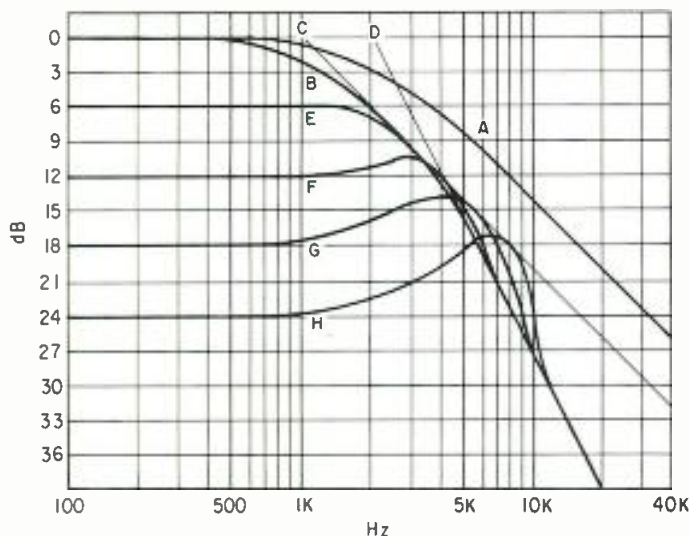
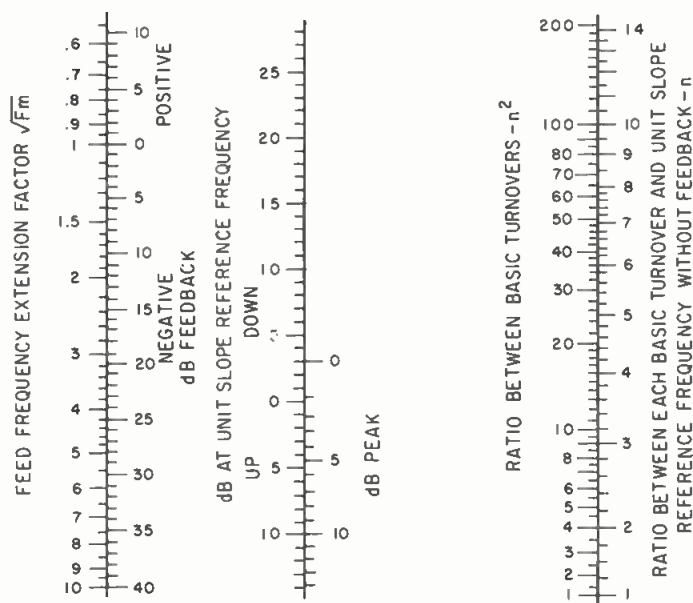
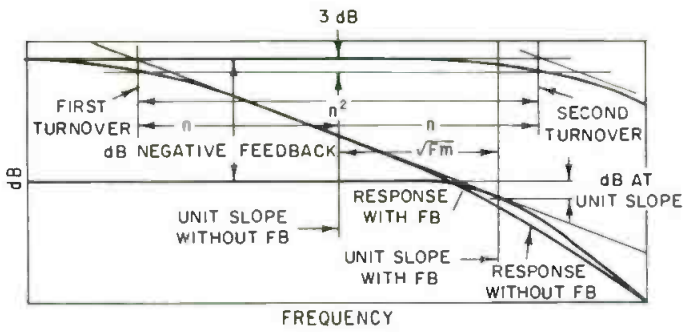

Figure 2. Effect of feedback with two identical roll-offs at the high end. (From Crowhurst, N. H. Feedback, 1952).
Figure 3. An abac for calculating response details in feedback over two roll-offs. (From Crowhurst, N.H., High Fidelity Sound Engineering, 1961).
Figure 4. How the abac of Figure 3 is used. (From Crowhurst, N. H., High Fidelity Sound Engineering, 1961).
That is, in a sense, the starting point for the interaction concept. When you move to using feedback over two or more stages, the extension of frequency response is no longer so simple, but involves interaction between the stages, brought about due to phase effects. FIGURE 2 shows the effect of two stages, each having a roll-off shown by curve (A).
At the low frequency end, this pattern is exactly reversed when you have two elements contributing to a low frequency roll-off within a feedback loop. FIGURE 18 is an abac for facilitate calculating what feedback does in all such cases. In FIGURE 2, we assumed identical roll-offs. That condition is a special one, which will not often apply. FIGURE 4 shows how to apply FIGURE 3 in locating the response.
You have two turnovers, spaced at a frequency ratio of n^2 . Midway between them, the response without feedback will have a slope of 6 dB/octave. Applying feedback will extend the touch point on the 6 dB/octave (or unit slope) by the extension factor, read across the left hand line in FIGURE 3. The chart can be used to find all reference points on the curve, given the necessary data.